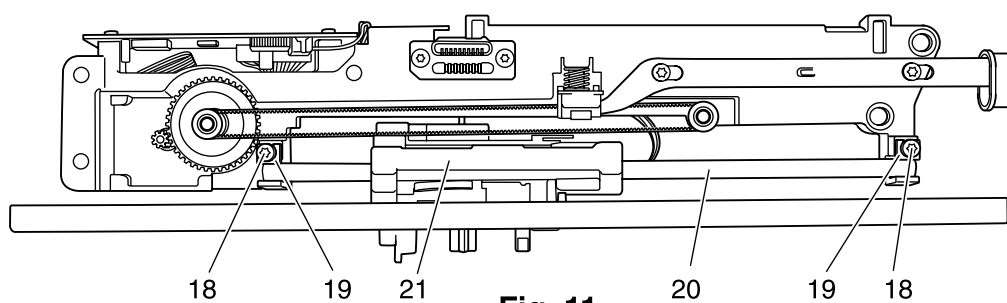

Fig. 11
2. Push the guide shaft 20 into the guide bushing of the motor carrier 21 (Fig. 11).